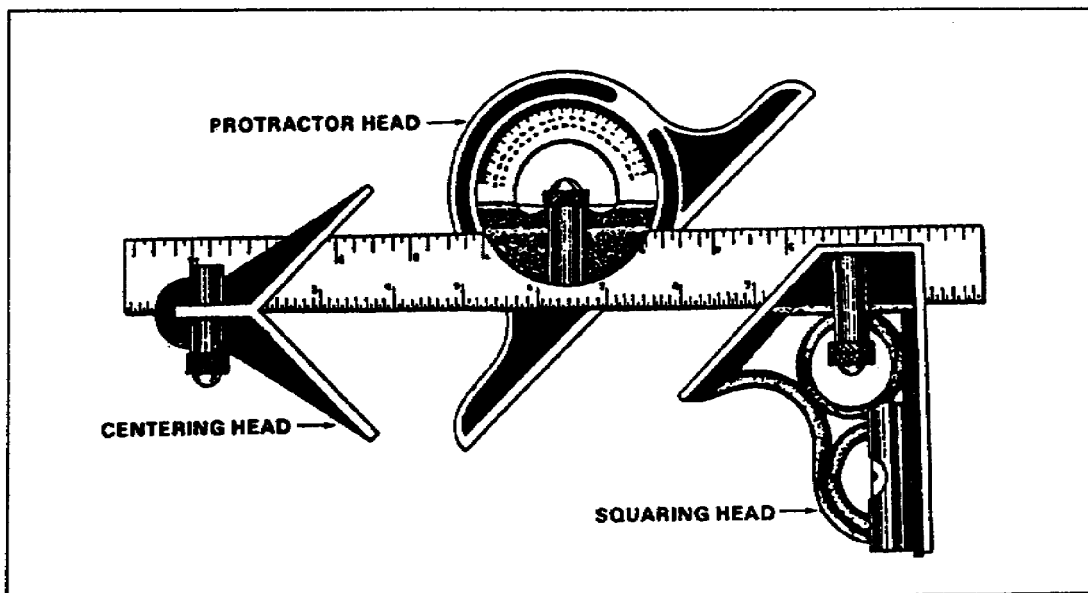

Figure 2.48. Combination square
c. Combination Square. A combination square does the work of a rule, square, depth gauge, and level (Figure 2-48, page 2-26). The name *combination* square indicates that you can use it as a try or miter square. It differs from the try and miter squares in appearance, and you can move the head to any desired position on the blade. The head slides in a groove located in the center of the blade. This groove also permits removal of the head so that the blade may be used as a rule or a straightedge. A spirit level is installed in the head, permitting it to be used as a level. A centering head, which can be substituted for the head, is used to locate the center of shafts or other cylindrical pieces. A scribe is also inserted in the head to be used for laying out work. The protractor head is used to set different angles. In the construction of this tool, the blade is hardened to prevent the corners from wearing round and detracting from its value as a measuring instrument.